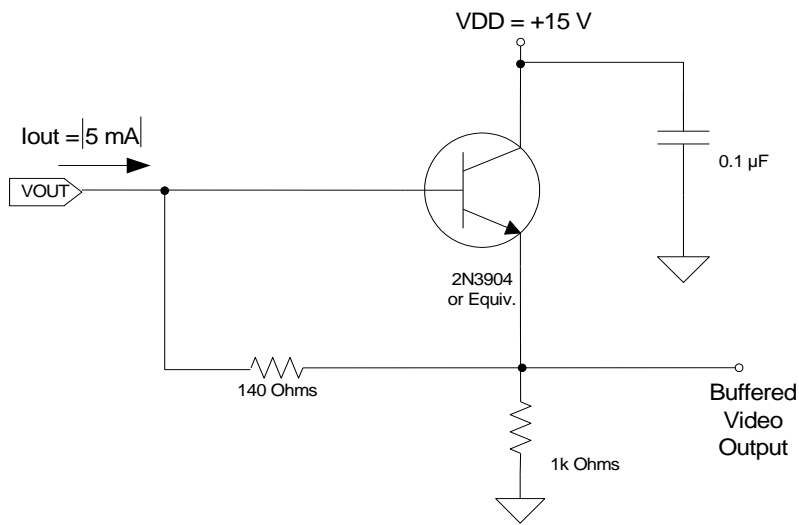

Figure 3: Recommended Output Structure Load Diagram
The output consists of a floating diffusion capacitance connected to a three-stage source follower. Charge presented to the floating diffusion (FD) is converted into a voltage and is current amplified in order to drive off-chip loads. The resulting voltage change seen at the output is linearly related to the amount of charge placed on the FD. Once the signal has been sampled by the system electronics, the reset gate (RG) is clocked to remove the signal and FD is reset to the potential applied by reset drain (RD). Increased signal at the floating diffusion reduces the voltage seen at the output pin. To activate the output structure, an off-chip current source must be added to the VOUT pin of the device. See Figure 3.